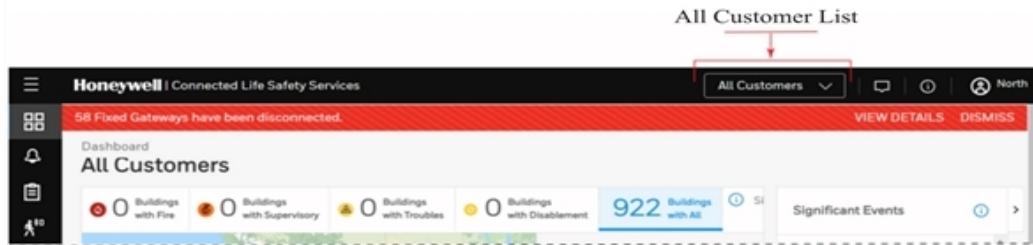

Figure E-5: Site Manager - All Customers List
02. Click **All Customers** and select the customer name from the list (see Figure E-5: Site Manager - All Customers List ).